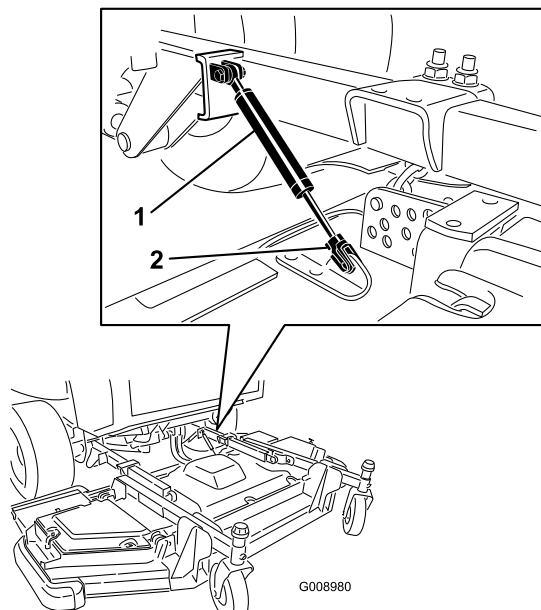

Figure 3
6. Remove the retainer clip and disconnect the damper assembly from the cutting unit (Figure 3).
11. Position damper to mount on cutting unit. Install spacer and spring pin to secure damper to cutting unit (Figure 3).